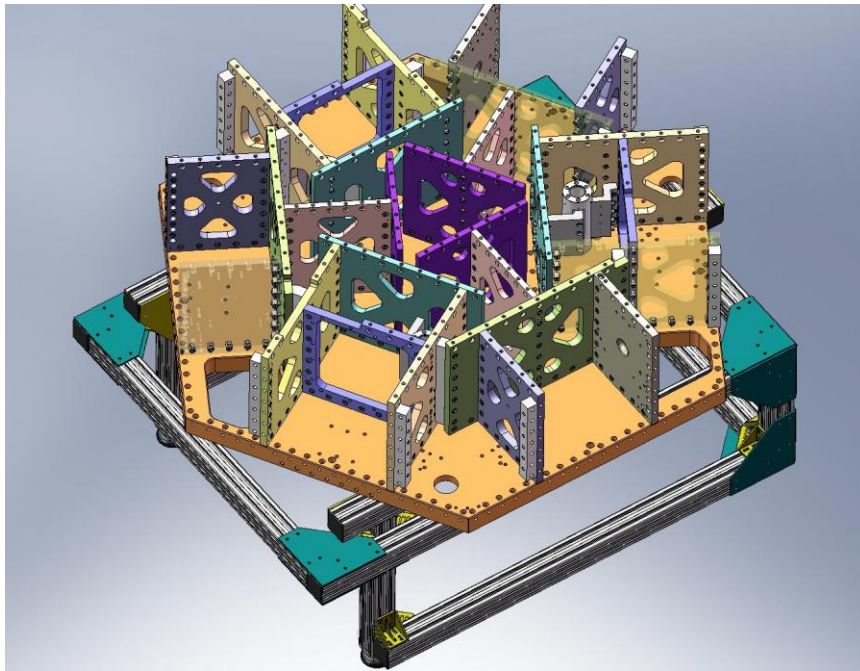
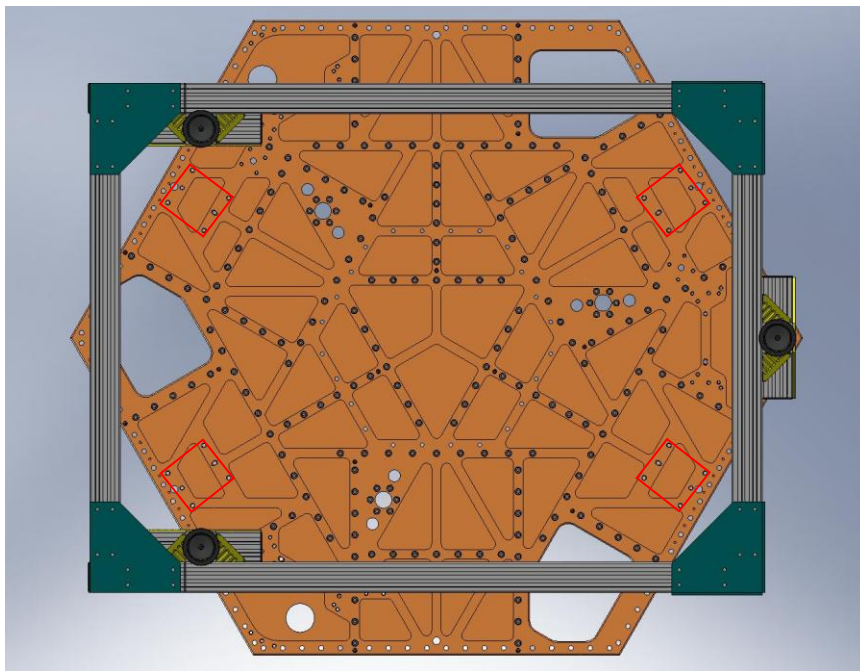

Figure 2.57. Rotate Stage 1 Assembly, to the orientation shown here. Note the location of the holes for the Locker Assemblies.
Figure 2.58. Bottom view of the Stage 1 Assembly, after rotation. Note the location of the (4) sets of Locker Assembly mounting holes.
- Lift the (partially built) **Stage 1 Assembly** (D071421) and rotate it 150 degrees, as shown in Figure 2.57 and Figure 2.58. This will allow access for bolting on the **Locker Assemblies** (D071450), later in the procedure.